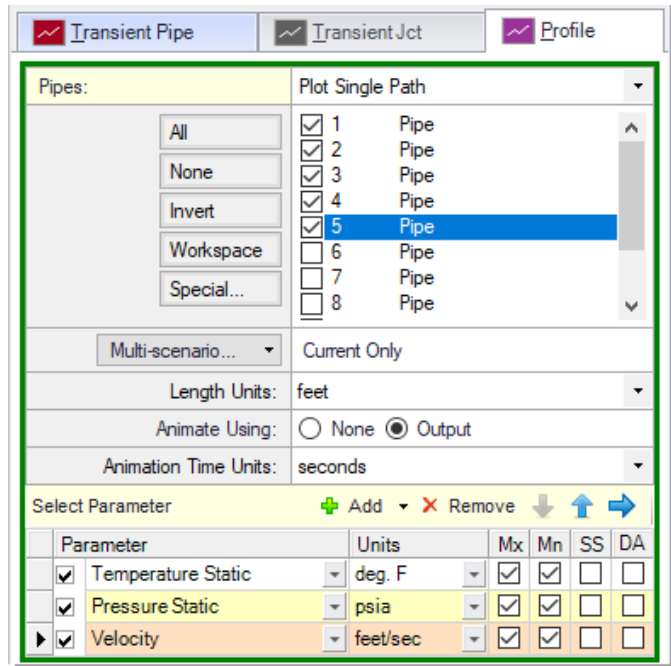

Figure 3.9 Graph Parameters for combustion basket #1 profile
8. Check the Mx and Mn boxes next to the graph parameters to plot the maximum and minimum values on the graph (see Figure 3.9)